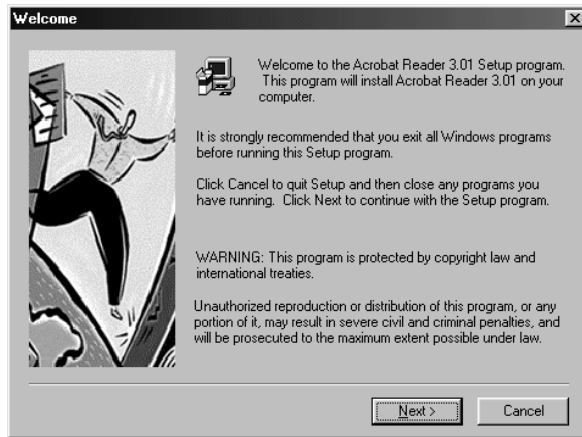

Figure 6: Installing Adobe Acrobat Reader
1. Click on 'Yes' to continue. Figure 6 will pop up.